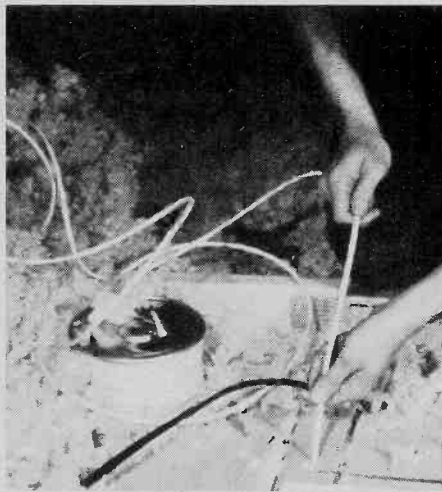

Fig. 4. Drop the cable down the holes to where the wall units should be located. Don't skimp on cable length. Leave about 2 feet slack for working room below.
Fig. 4. It is very obvious that this is a homemade radio that was originally something else. To restore this radio you would need a new front panel, and you would have to refinish the cabinet.
**Start on Top.** Working from the overhead, the attic, cables are dropped into the walls below. Scrape away the attic insulation in the area you are working in and locate the wall below. Look for the studs that terminate on a ceiling top plate. If you can't see the studs, look for the nails that hold them in place. Nailheads will be popping up every 16 inches. (See Fig. 2.) The chances are, there will be no fire stops to block your path to the hole in the wall you will knock out in the room below. However, should you run into a fire stop, use a long extension drill to drill through the fire stop. (See Fig. 3.) If you can't borrow an extension drill, rent one. Possibly the fire stop will be immediately above the hole you wish to cut in the wall below; if so, drill through the fire stop at this hole. The cables are fed down the holes to the approximate positions of the wall units below. (See Fig. 4.) Allow two extra feet of cable for installation and connection of wall unit.